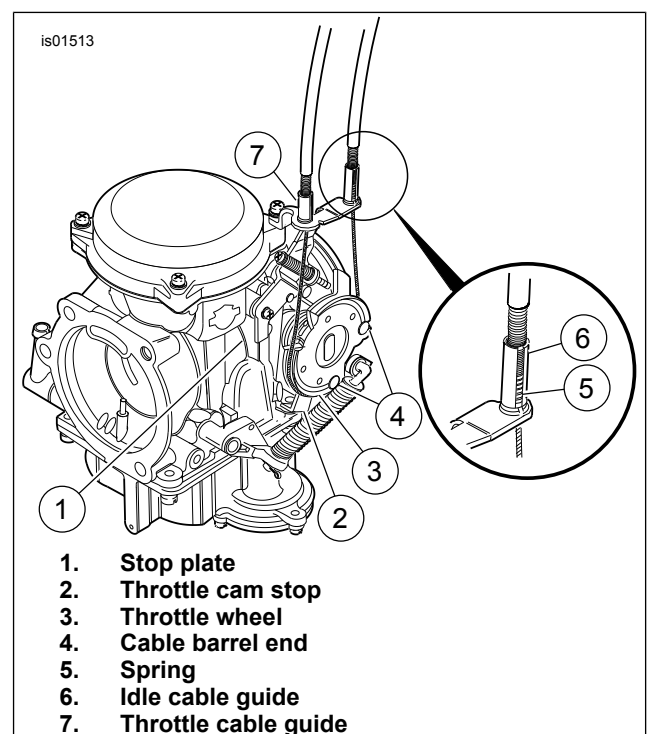
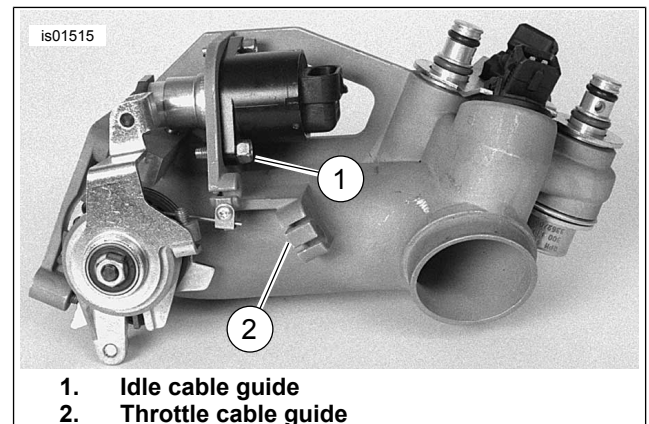
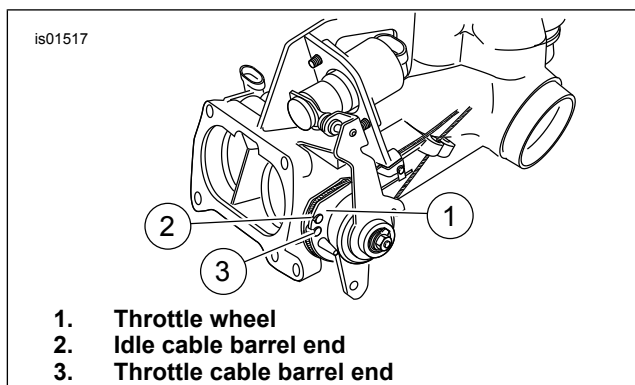

Figure 4. Throttle Cable Assembly (Carbureted Models)
Figure 5. Throttle Cable Assembly (Fuel Injected Models)
Figure 6. Throttle Cable Assembly (Fuel Injected Models)
9. Remove cables at Carburetor/Induction Module as follows: **Carbureted Models:** See Figure 4. Remove cable barrel ends from holes in throttle wheel and release cable housings from cable guides on carburetor cable bracket. **Fuel Injected Models:** See Figure 5. Remove idle and throttle control cables from integral cable guides (1, 2) cast at front of induction module. See Figure 6. Pull cable barrels ends (2, 3) from holes in throttle wheel (1).
Carbureted Models: See Figure 4. Install the idle cable housing and spring into the longer cable guide on the carburetor cable bracket. Route the idle cable down, fit barrel end into hole in throttle wheel (farthest from cam stop). Install the throttle cable housing into the shorter cable guide inserting barrel end into remaining hole in throttle wheel. **Fuel Injected Models:** See Figure 5 and Figure 6. Route the idle control cable around the top of the throttle wheel, insert barrel end into upper hole. Route the throttle control cable around the bottom of the throttle wheel and insert barrel end into lower hole. Using slots, slip throttle and idle control cables into cable guides cast at front of induction module.